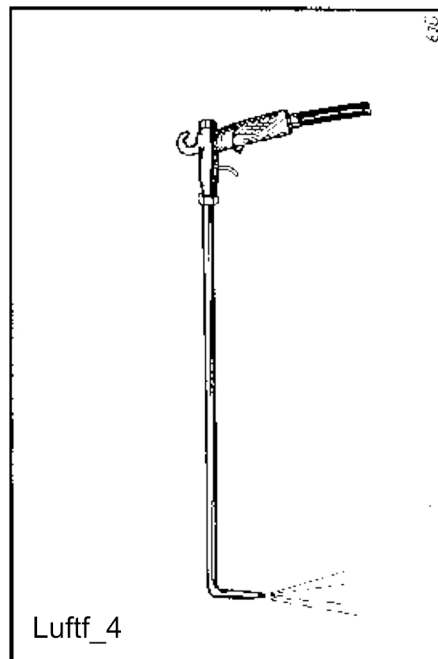

Fig. 163
- A tube whose end is bent by approx. 90° should be placed onto the compressed air gun. It must extend to the bottom of the element (**Fig. 163**).